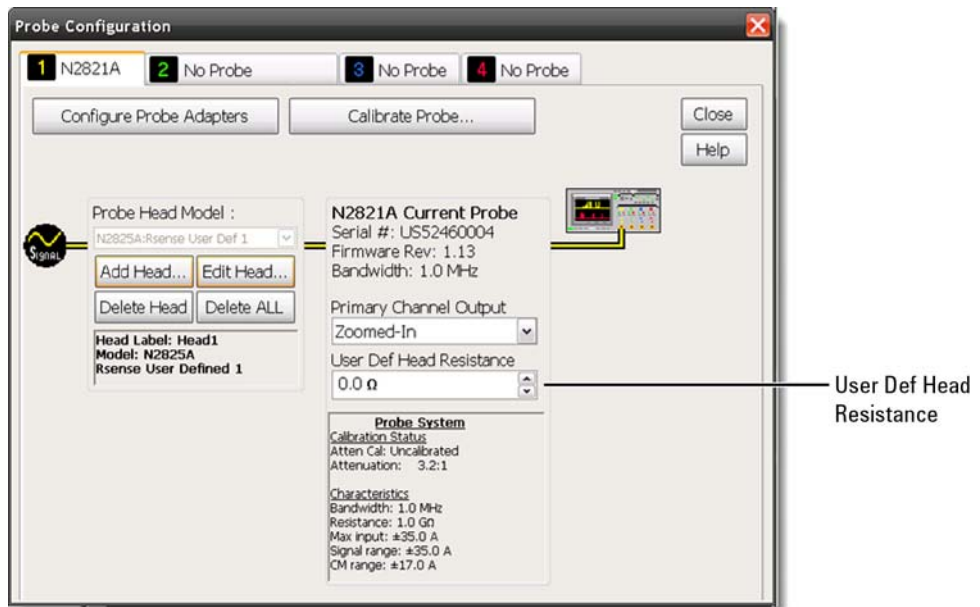

Figure 23 Infiniium Dialog Box With N2825A Heads
- 1 Click the **Setup > Probe Configuration** menu command to view the Probe Configuration dialog box, shown in Figure 23.